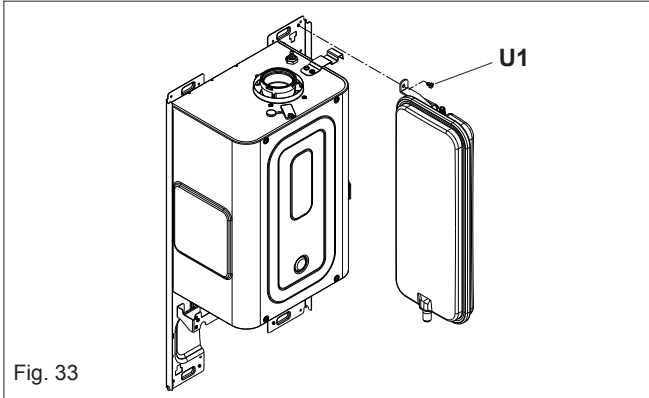

Fig. 33
6.18 EXPANSION VESSEL REMOVAL (fig. 33)